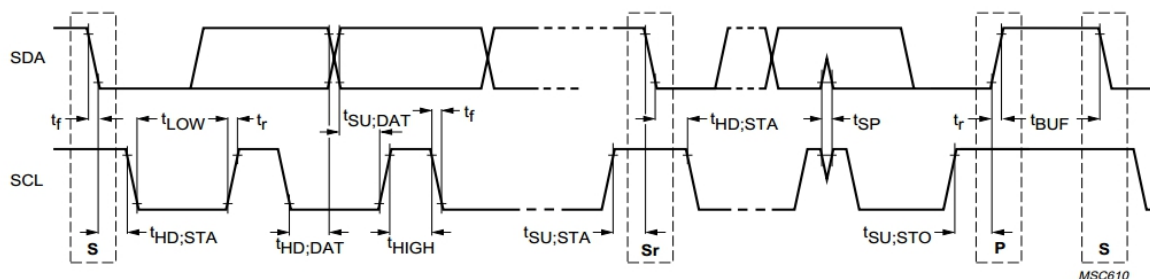

Figure 10 IIC Sequence parameters
2. To ensure communication safety, the effective time of SDA should be extended to T_{SU} and T_{HD} before and after the rising edge of SCL (refer to Figure 10).